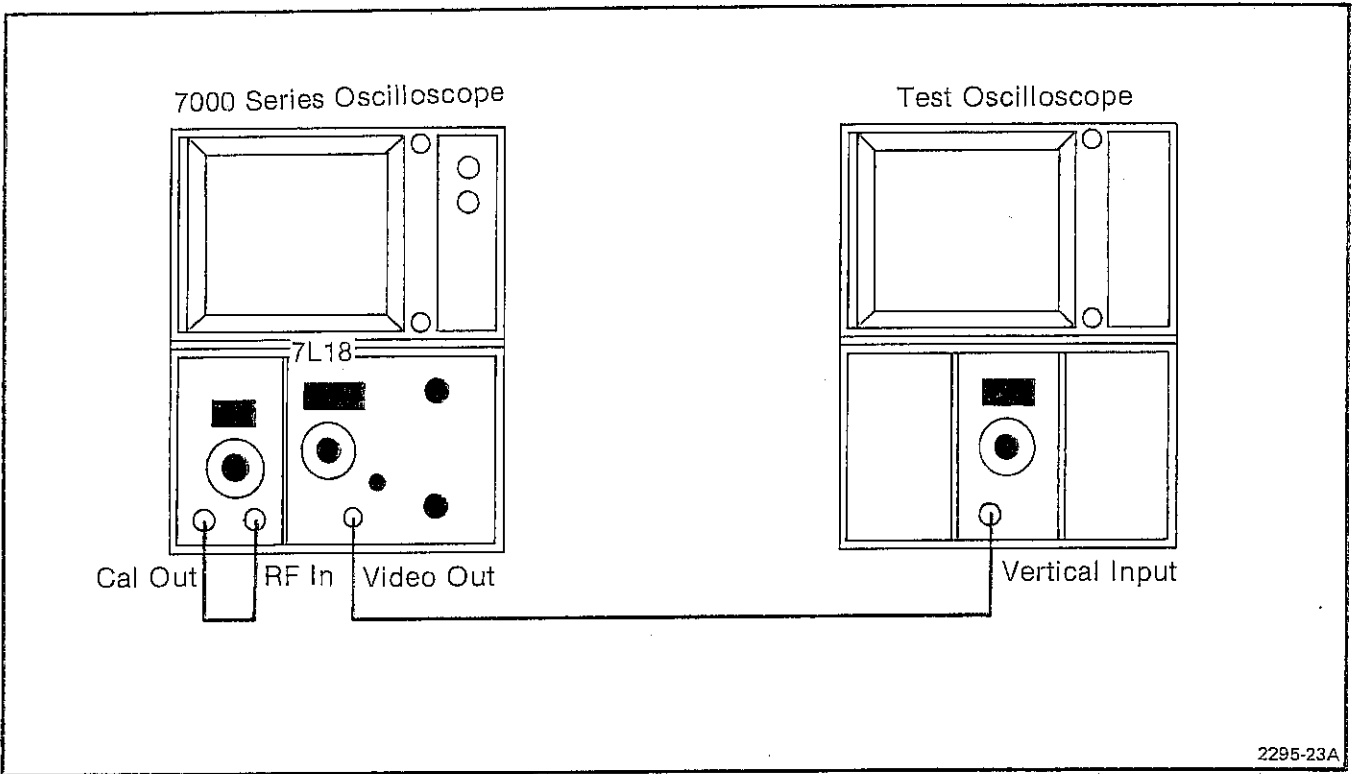

Fig. 4-15. Video Output Level Test Setup.
a. Connect the test setup as shown in Fig. 4-15. Apply the VIDEO OUT signal of the 7L18 to the input of a dc-decoupled test oscilloscope with sensitivity set to 1 V/div. Set the 7L18 Display Mode to LOG 2 dB/DIV, REFERENCE LEVEL to -20 dBm , TIME/DIV to AUTO, FREQ SPAN/DIV to 100 kHz, and RESOLUTION BANDWIDTH to 300 kHz.